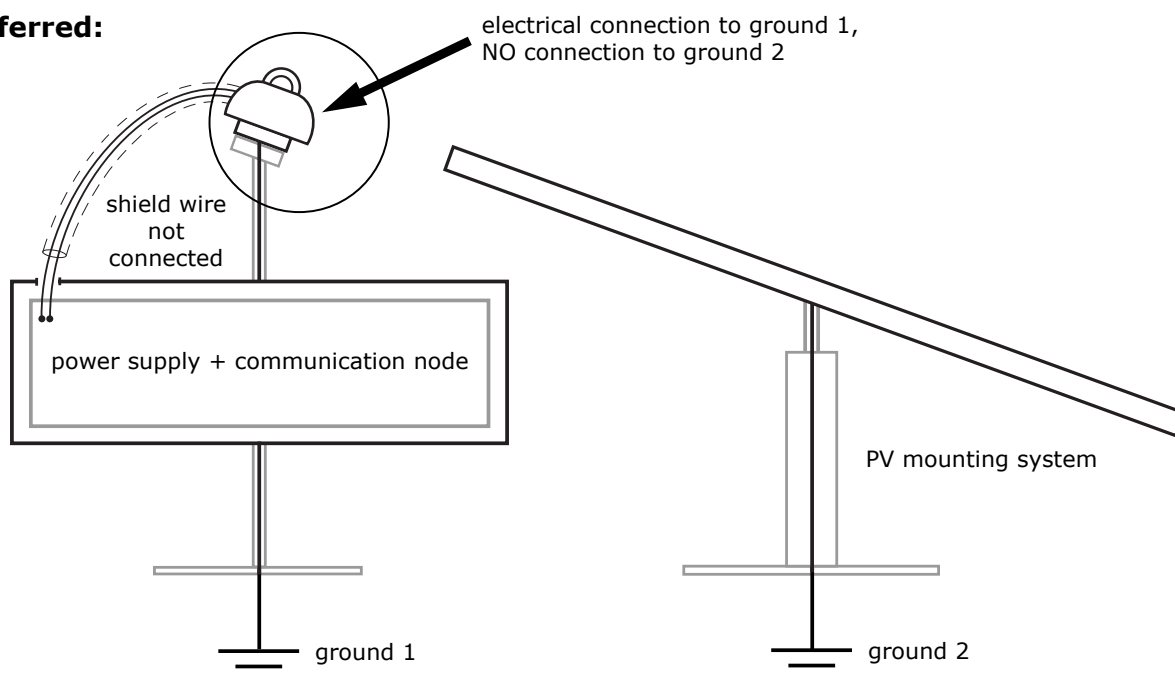

Figure 3 Preferred method to electrically ground and mechanically mount an SR-D digital pyranometer
- keep it simple: connect or refer all system components to the same ground. This keeps voltage differences between pyranometer body ground and digital network ground within the rated operating range. Use the sensor with a dedicated power supply, with its ground referred, but not connected, to the same ground 1 in Figure 3. Make sure the digital signal ground (for example of RS-485) is
referred, but not connected, to the same ground 1 in Figure 3. Often there is no voltage difference between RS-485 ground and the power supply ground. In that case, the RS-485 digital signal ground (also called common) is connected to the power supply [-].
- keep it simple: combine installation of data acquisition / digital network, power supply and instrument on a single locally grounded, electrically conducting (metal) mounting frame such as a mast or a pole, ground 1 in Figure 3.